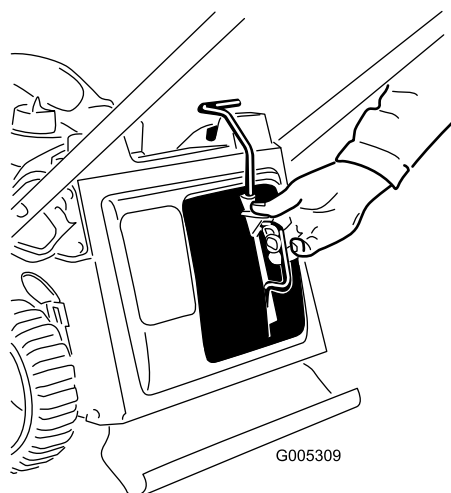

Figure 34
3. Insert the mulch plug (Figure 34).